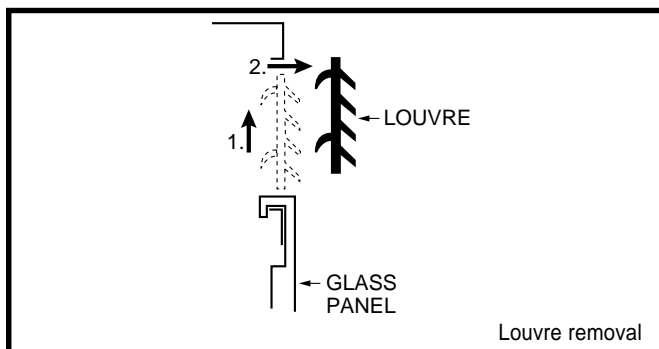

Fig. 37 Remove louvre assembly top
- The top side and top end louvres are removed by simply lifting the louvre assembly and pulling the assembly away from the fireplace (Fig. 37).